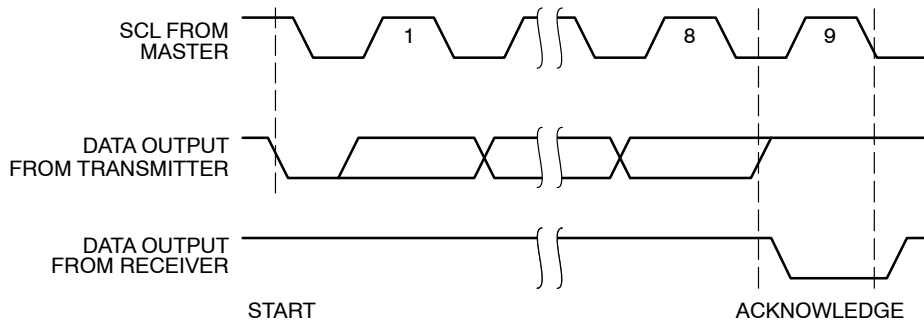
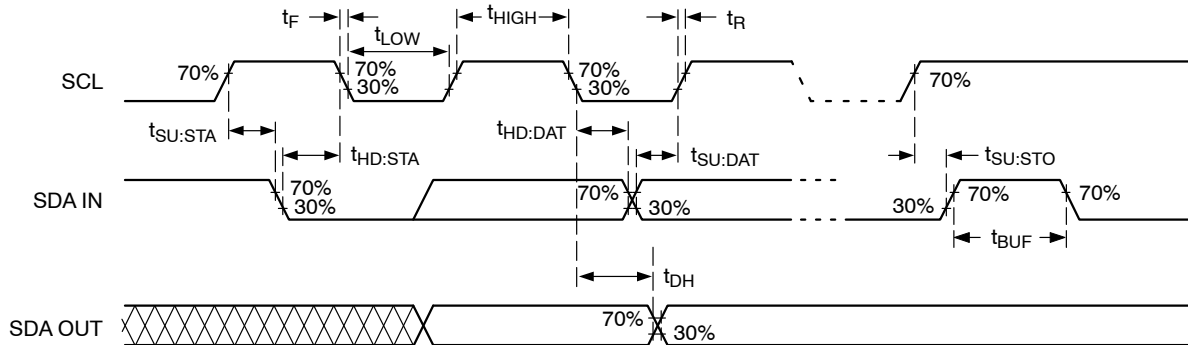

Figure 4. Acknowledge Timing
Figure 5. Bus Timing
- Timing reference points are set at 30%, respectively 70% of V_{CC} , as illustrated in Figure 5. Bus loading must be such as to allow meeting the V_{IL} and V_{OL} as well as all other timing requirements. The minimum clock frequency of 10 kHz is an SMBus recommendation; the minimum operating clock frequency is limited only by the SMBus time-out. The device also meets the Fast and Standard I²C specifications, except that T_i and t_{DH} are shorter.
A matching Slave address is acknowledged (ACK) by the Slave by pulling down the SDA line during the 9th clock cycle (Figure 4). After that, the Slave will acknowledge all data bytes sent to the bus by the Master. When the Slave is the transmitter, the Master will in turn acknowledge data bytes in the 9th clock cycle. The Slave will stop transmitting after the Master does not respond with acknowledge (NoACK) and then issues a STOP. Bus timing is illustrated in Figure 5.